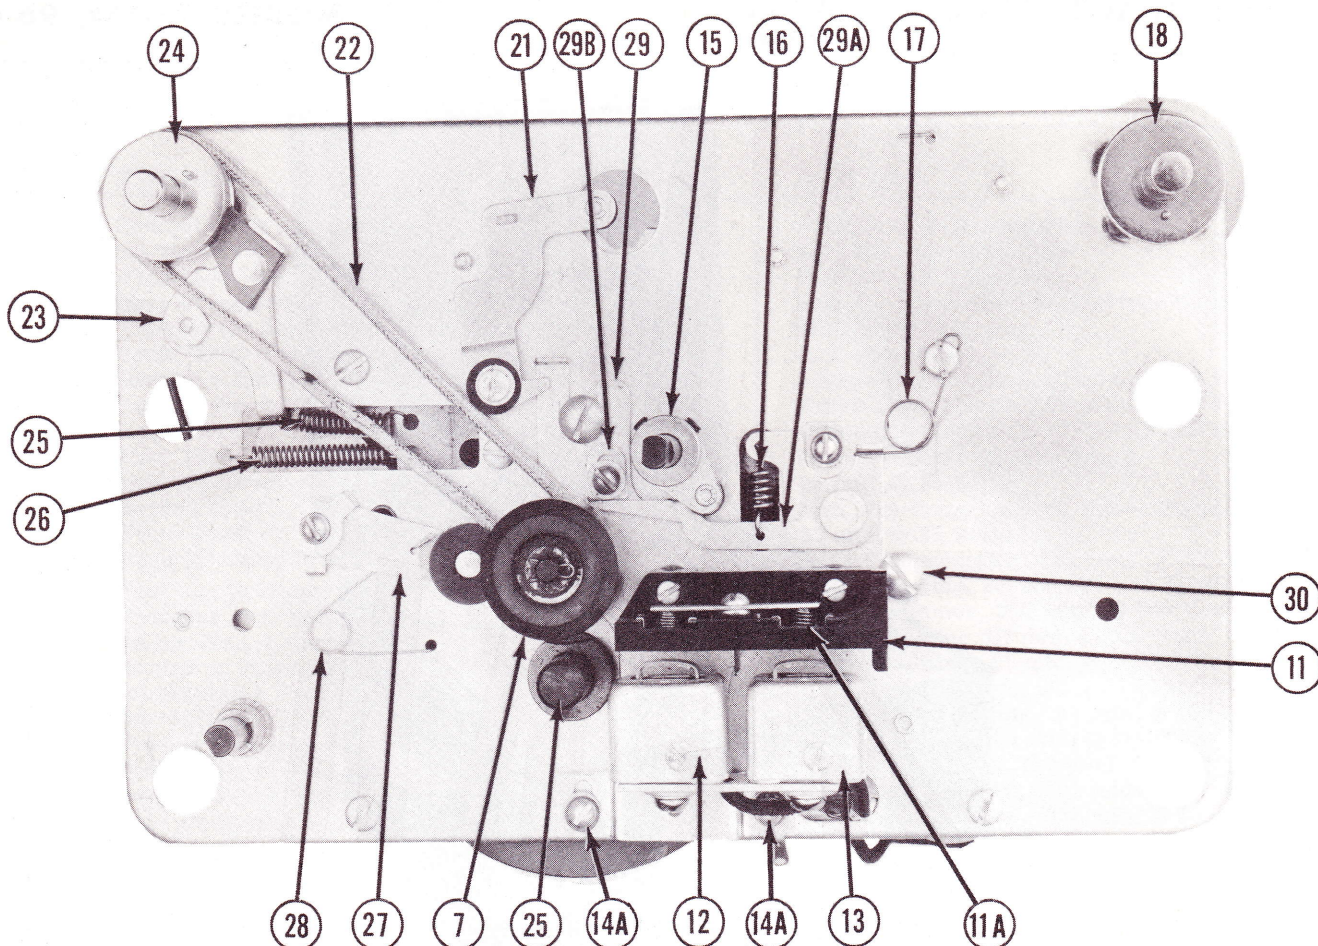

Figure 2
Set the pressure lever (15), see Figure 2, so that it is perpendicular to the pressure arm (29A) when the control knob is in the Record-Playback position. Also adjust the arm adjusting plate (29B) so it will clear the pressure arm (29A) by 1/64" when in this position.
The head pressure is adjusted by means of the two screws (14A) in the slotted holes in the head bracket (14). See Figure 2. To make the adjustment, turn the control knob (1) to "Record-Play" position. Loosen the screws (14A) then adjust the head into the tape guide block (11) until the pressure pads (11A) show a movement of slightly less than 1/32" on the reverse side of the tape guide (11).
1. Felt pressure pads (11A) in tape guide assembly (11) worn.
2. Oil or grease on drive roller (57), flywheel assembly (40), or pressure roller (7).
4. Check pressure roller lever (15) to see if it is perpendicular to the pressure arm (29A). When in the "Record-Play" position. See Adjustments on "Pressure Lever and Arm Adjusting Plate".
5. Drive roller (57) or pressure roller (7) eccentric. Allow mechanism to run for 20 minutes. If after this time the rollers are still eccentric, replace with new rollers.
7. Detent spring (26) not properly connected. See Figure 2. If spring (26) is not connected, the detent slide (36) will not be held against the detent lever (38) resulting in the motor drive pulley (57) not being held in firm contact with the capstan.